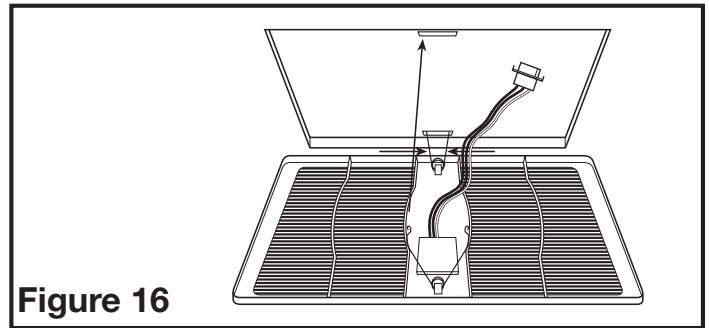

Figure 16
- 6b. **MOTION SENSING MODELS:** Install the grill by squeezing the spring furthest from the motion sensor together and installing it up into the slot furthest from the wire compartment on the fan's housing. Attach the 3 pin quick connect from the motion sensor on the grill to the harness installed in Step 2a. This cord will only fit one way into the receptacle. Install the other spring in place and push the grill up into position (Figure 16).